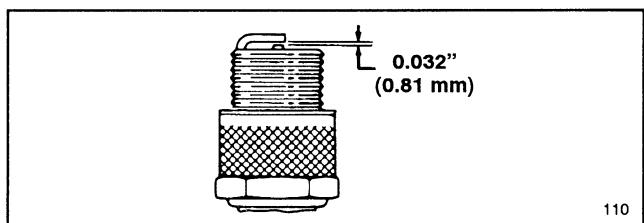

Figure 8
3. Set air gap at 0.032" (0.81 mm) (Fig. 8). Install correctly gapped spark plug and gasket seal. Tighten plug firmly to 10 ft-lb (13.6 N·m).